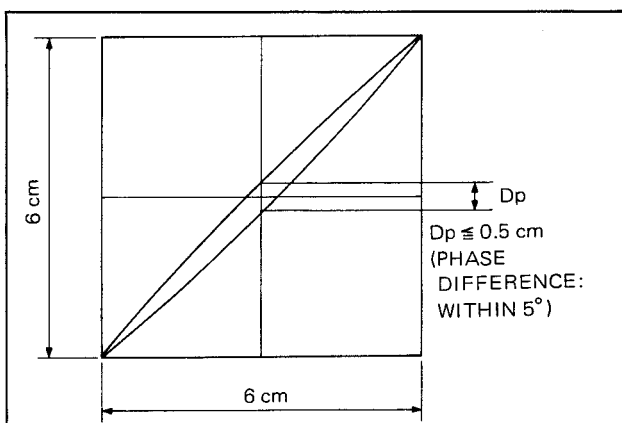

Fig. 3-90. Audio/CTL R/P Head Azimuth Adjustment of Audio 3 kHz Playback
3. Check that the phase difference between AUDIO-1 and AUDIO-2 is within 5 degrees. See Fig. 3-90. If the specified value is not obtained, perform the following adjustment.